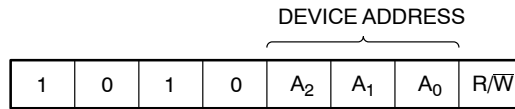

Figure 3. Slave Address Bits
The Master initiates data transfer by creating a START condition on the bus. The Master then broadcasts an 8-bit serial Slave address. The first 4 bits of the Slave address are set to 1010, for normal Read/Write operations (Figure 3). The next 3 bits, A₂, A₁ and A₀, select one of 8 possible Slave devices and must match the state of the external address pins. The last bit, R/ \overline{W} , specifies whether a Read (1) or Write (0) operation is to be performed.